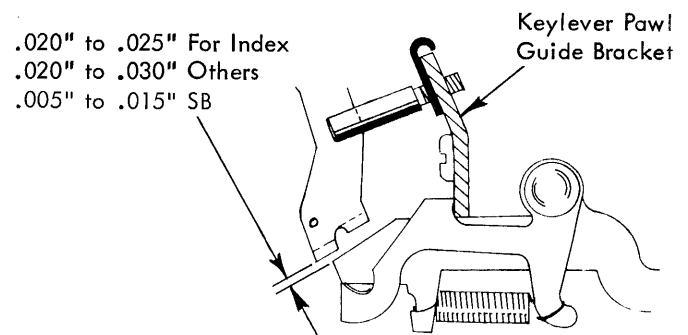

FIGURE 158. Keylever Pawl To Interposer Clearance Adjustment
- a. Adjust the height of the interposers by positioning the keylever pawl guide bracket up or down to obtain a clearance of  $.020''$  to  $.025''$  between the index keylever pawl and the index interposer at rest (Fig. 158). The keylever pawl guide bracket should be kept horizontal.
- b. The adjusting slot in the carrier return, backspace and tab keylevers should be formed to obtain  $.020''$  to  $.025''$  clearance between the keylever pawl and the interposer at rest (Fig. 158).
- c. Adjust spacebar lever eccentric with the high part forward to obtain a keylever pawl to interposer clearance of  $.005''$  to  $.015''$  (Fig. 158).